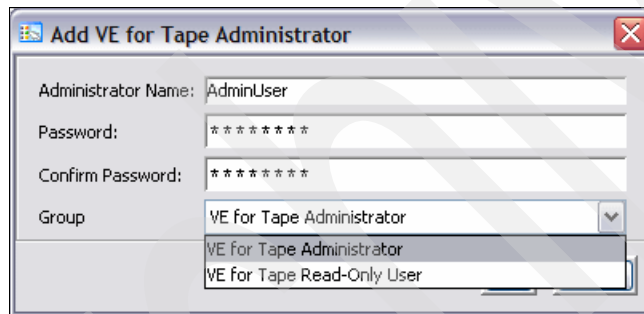

Figure 5-73 Adding an administrator
2. Enter the Administrator Name and Password. Select the appropriate Group. See Figure 5-73.